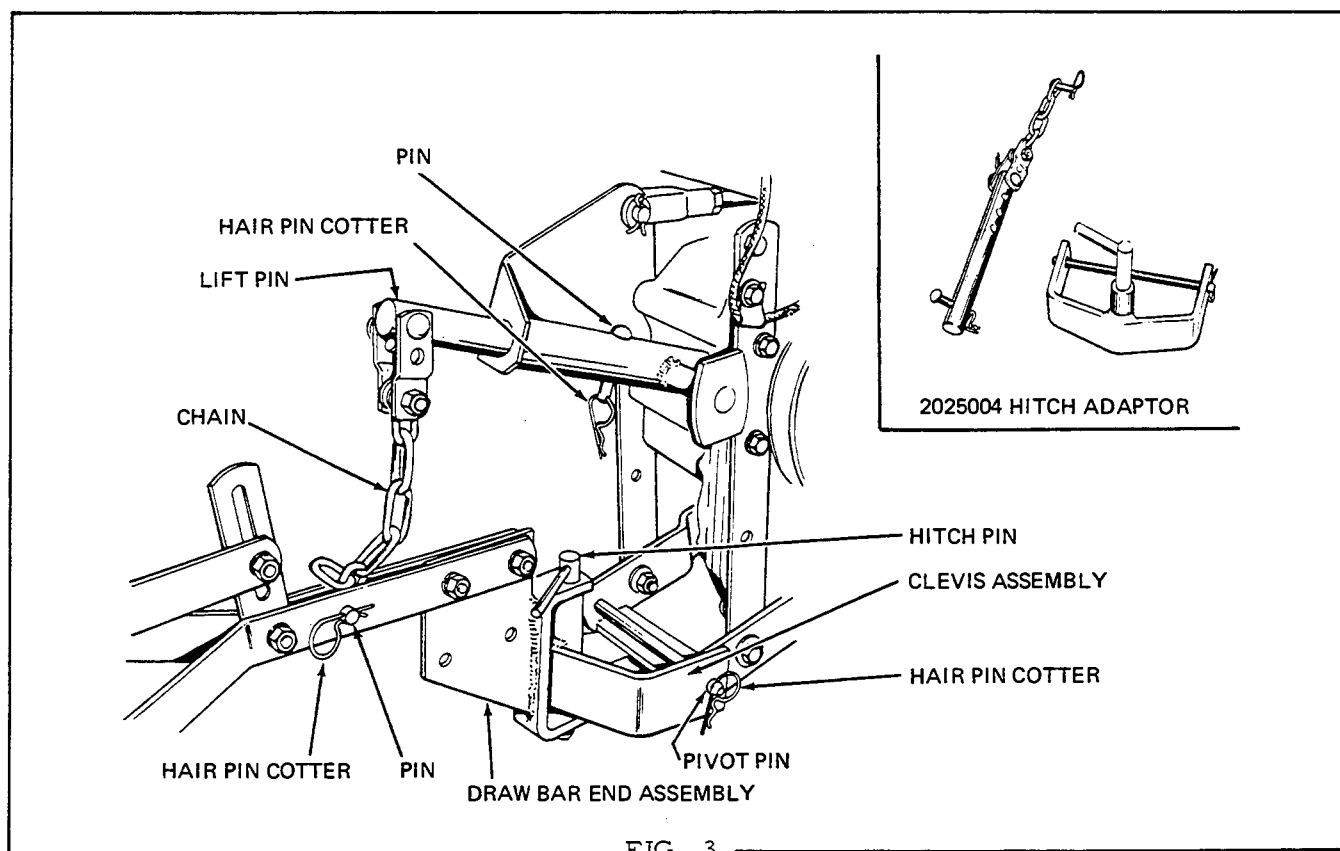

FIG. 3
3. The drawbar end assembly is fastened to the harrow drawbar by two carriage bolts through the upper set of holes in the drawbar end assembly as shown in Fig. 3. Check to be sure that the upper set of holes are used when using the harrow on the tractor.
OPERATION AND ADJUSTMENT (Fig. 3)
Position the disc harrow in back of the tractor and attach the drawbar end assembly to the clevis assembly by inserting the hitch pin. Connect the lift chain to the harrow at point shown in Fig. 3, using pin and hair pin cotter.